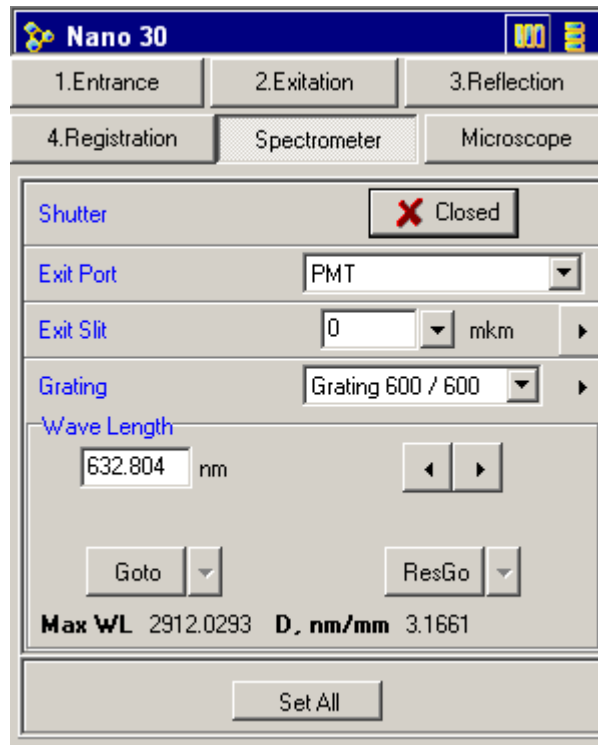

Fig. 12-27. Spectrometer tab of the Nano 30 dialog
- a. Go to the **Spectrometer** tab (Fig. 12-27) by clicking the corresponding title.
6. Go to the **Spectrometer** tab of the **Nano 30** dialog (see Fig. 12-27) by clicking the corresponding title.
- a. Enter position of the diffraction grating according to the desired spectral range in the input field of the **Wave Length** panel (see Fig. 12-27).